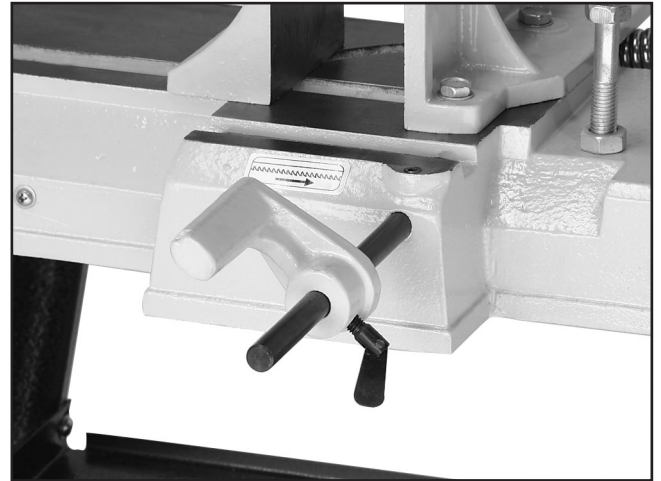

Figure 30. Work stop.
- Use the work stop to quickly and accurately cut multiple pieces of stock to the same length (see **Figure 30**).